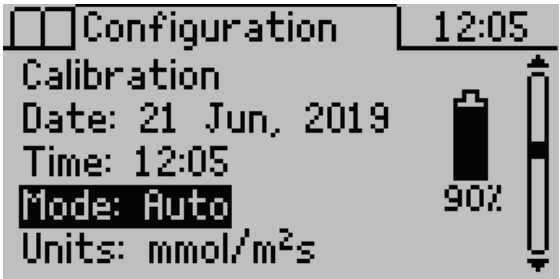

Figure 1 Configuration tab
- 2. Press **MENU** to navigate to the Configuration tab (Figure 1).